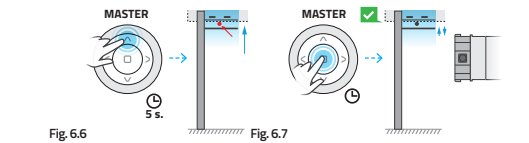

Fig. 6.6
- On the MASTER remote control, press and hold the UP button (approx. 5 sec.) Until the shutter starts to lift and stops in the upper position - Fig. 6.6. If stoppers are installed (marked in red) - the ERS tubular motor will close the armor until the stoppers stop in the upper position. The tubular motor will release the armor with a gentle downward movement. If there are no stoppers, stop the armor using the STOP button on the MASTER remote control - before reaching the desired upper end position. To adjust the upper position, perform a PRECISION SETTINGS or FINE SETTINGS.